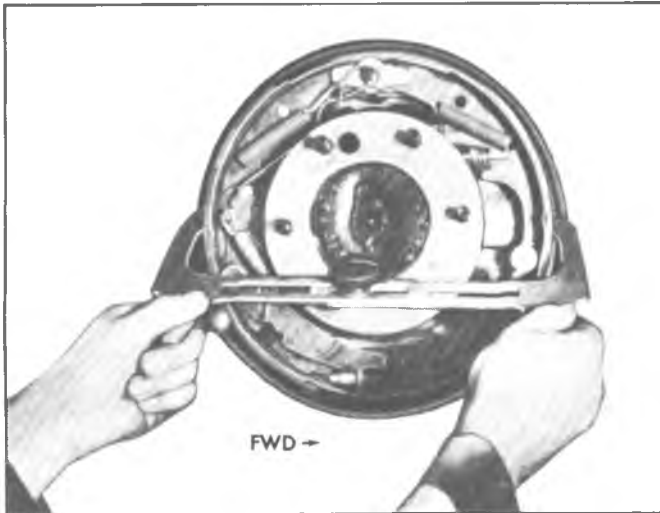

Fig. 40--Setting Lining Clearance with J-21177 or J-22364
- b. Turn the tool to the opposite side and fit over the brake shoes by turning the star wheel until the gauge just slides over the linings (fig. 40).